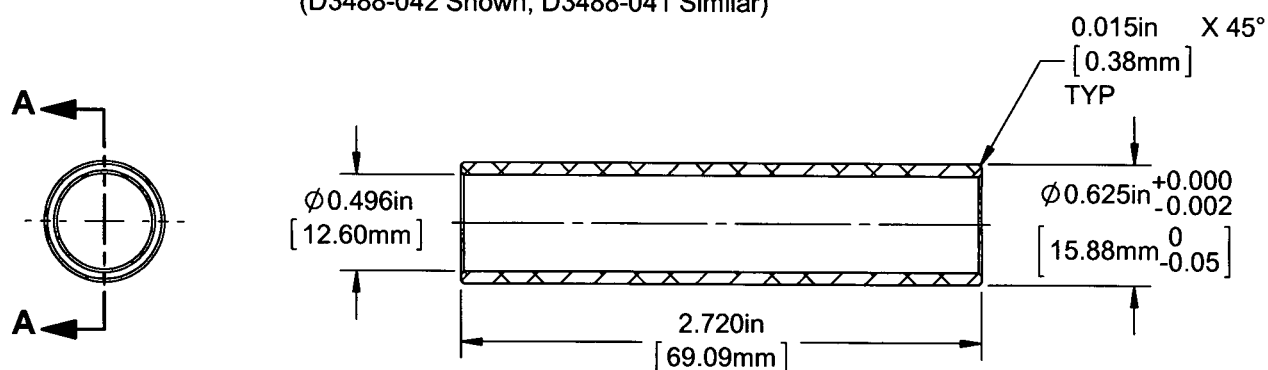

FIGURE 2: Bushing Detail
- 3.1 Fabricate qty(1) bushing for each Blade Fitting Assembly in accordance with Figure 2 of this Service Instruction and to the following material specifications: 7075-T73 (or 7075-T7351/T73510/T73511) round bar per AMS-QQ-A-200/11 or AMS-QQ-A-225/9.